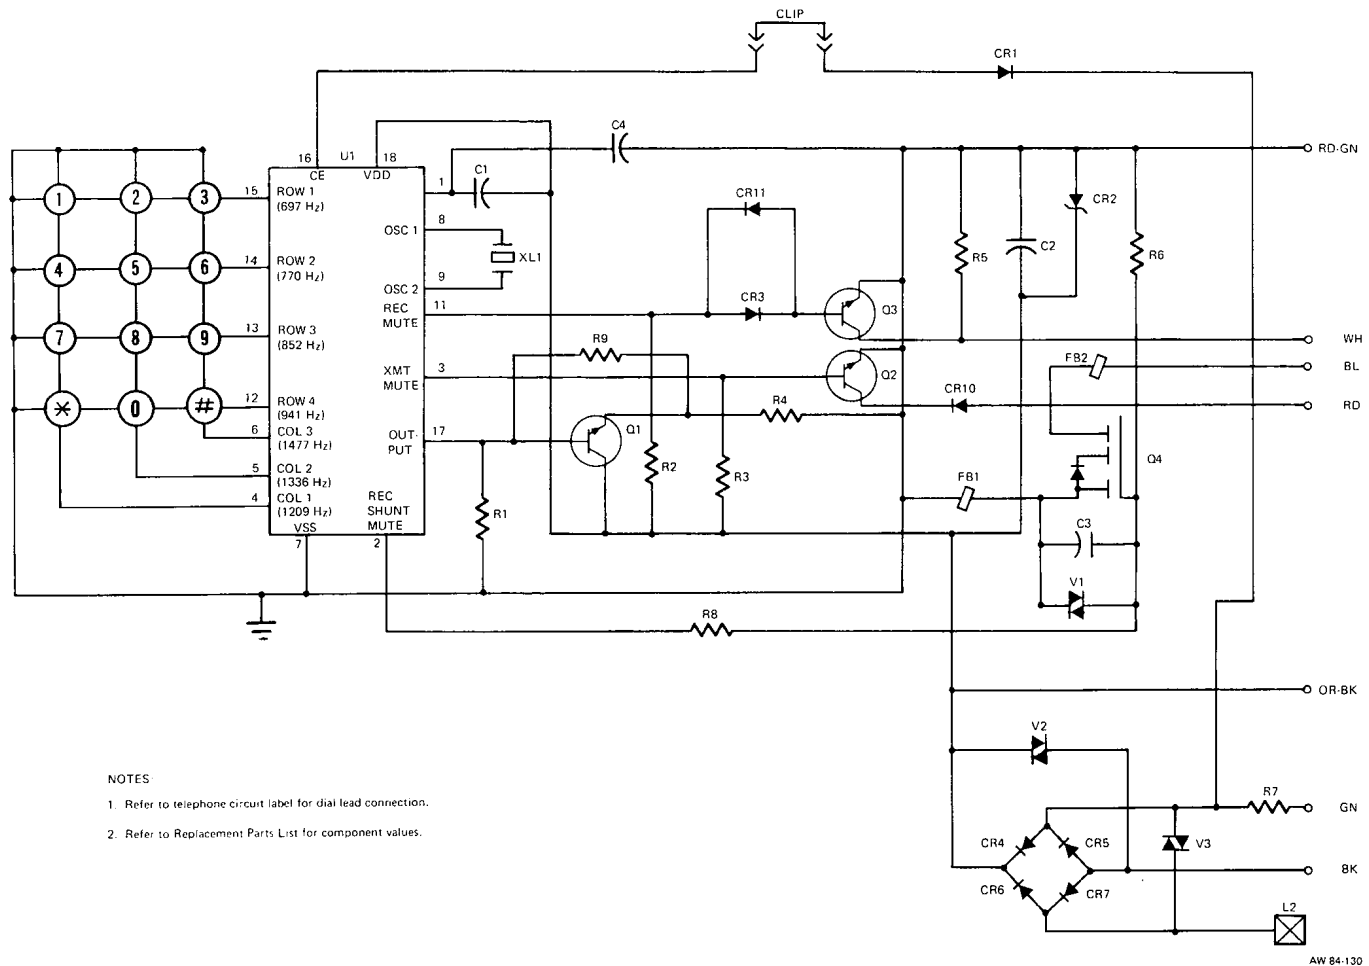

Figure 3: Model 42 Pushbutton Dial, Schematic
2.04 The tone-generating PCB consists of a DTMF generator integrated circuit (IC), a crystal oscillator, and various other solid-state components. The crystal oscillator provides a constant reference for the tone generator IC that generates eight digitally-synthesized tones. The other solid-state components, along with the IC, provide handset receiver and transmitter muting, and polarity guard. (See Figure 3.)